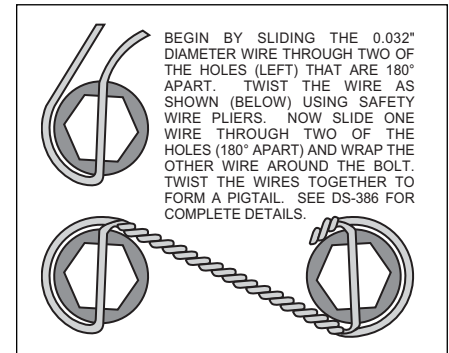

Figure 3. Safety Wire Diagram
- With the larger I.D. side of the rotor (6) facing away from the hat (7), bolt rotor (6) to hat (7) through the backside of the rotor using washers (8) and bolts (9). Torque bolts (9) in an alternating sequence to 120-144 **in-lb**. Safety wire bolts (9) using standard 0.032 inch diameter stainless steel safety wire as shown in Figure 3. Please refer to Wilwood's data sheet DS-386 (available at www.wilwood.org/ds386.pdf) for complete safety wire installation instructions. **NOTE:** The rotor hat included in this kit is a multiple use part and has two 5 x 4.50" bolt circles. For correct use in this application, use the bolt circle with the smaller diameter (.484") stud holes. For further reference, check the inside face of hat assembly, one of the smaller diameter stud holes will have a circular reference mark engraved around its circumference. Do not use the larger diameter stud holes, as rotor and hat will not center correctly on hub. Slide the rotor/hat assembly onto the spindle. Install a couple of lug nuts (finger tighten) to keep the rotor/hat assembly in place while continuing with the installation.